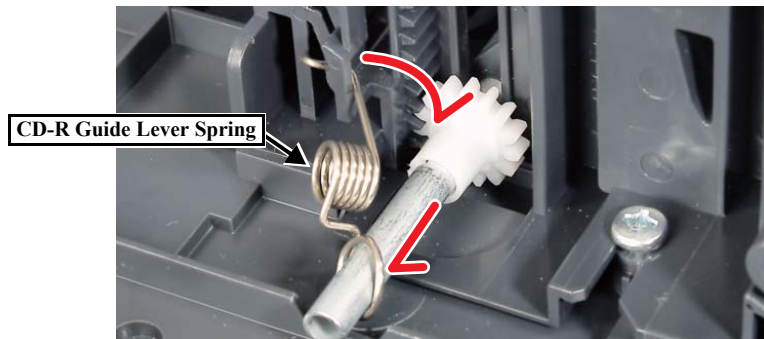

Figure 4-50. Removing the CD-R Guide Lever Spring
4. Lower the CD-R Guide, slide the shaft side of the CD-R Guide Lever Spring, release its hook side end, and remove the spring. (Fig. 4-50)